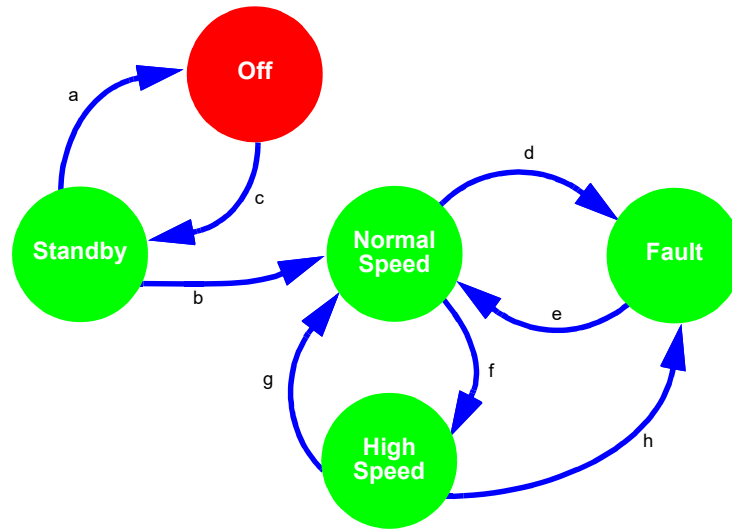
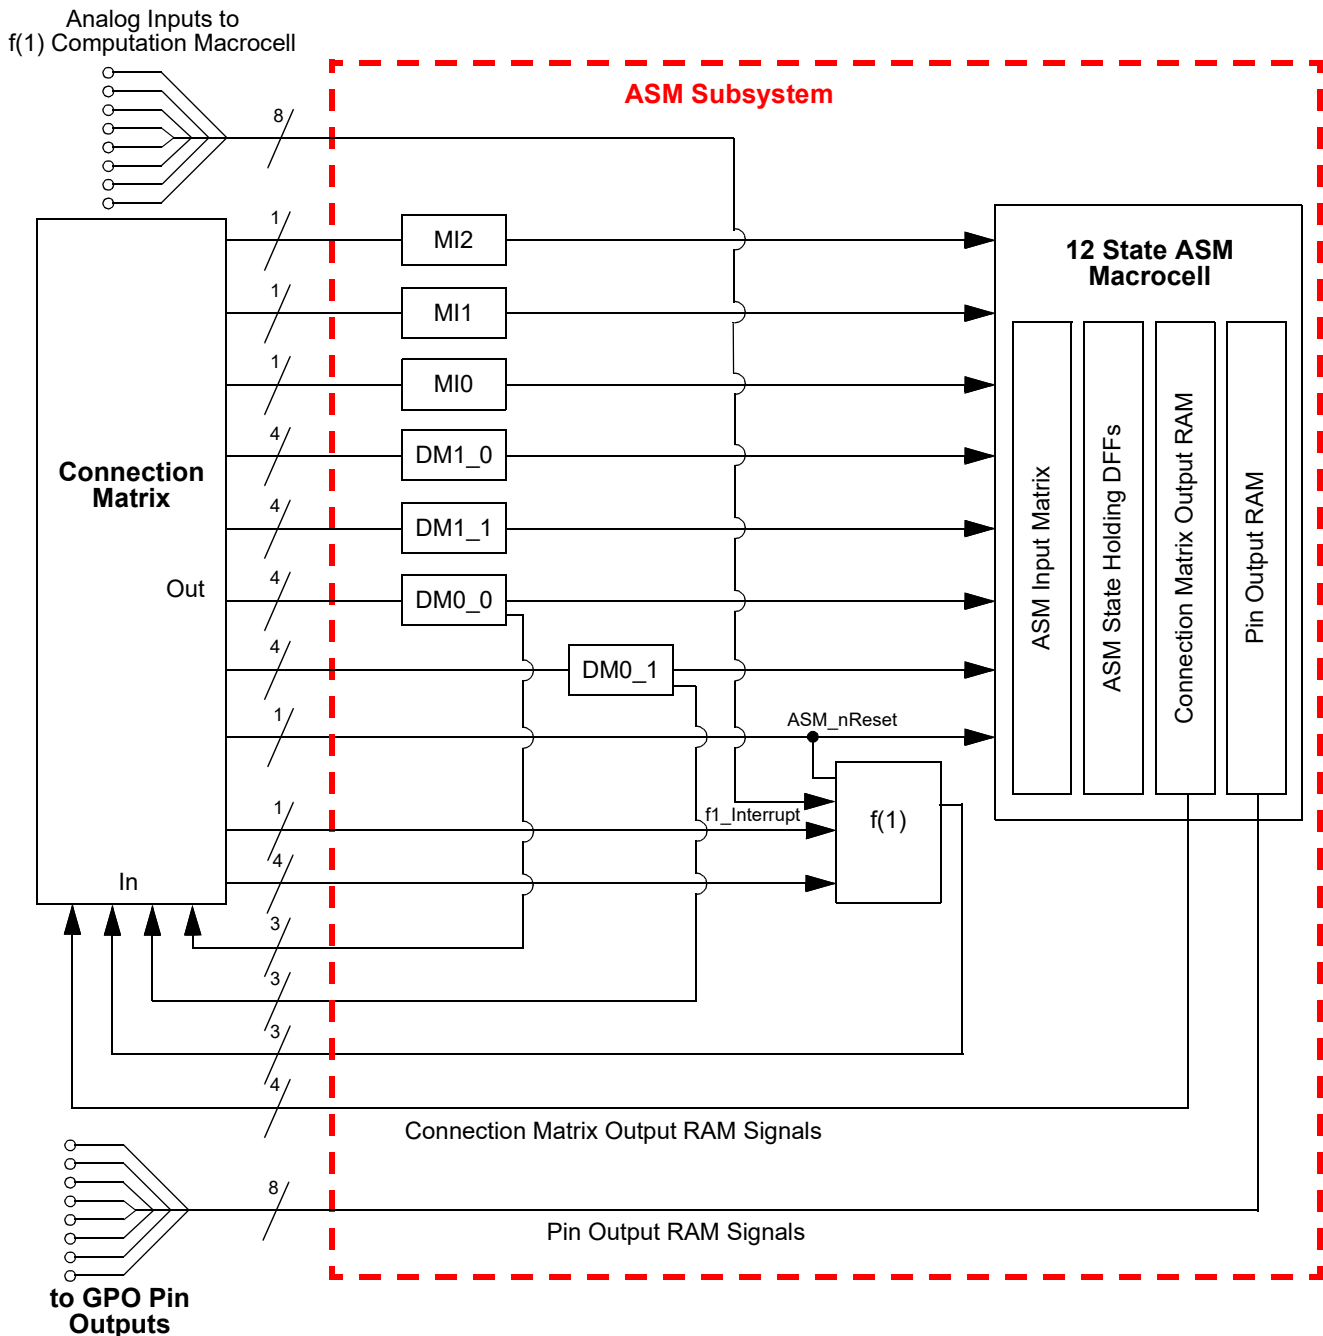

Figure 96: Asynchronous State Machine State Transitions
Figure 97: Connection Matrix to ASM Subsystem
The Asynchronous State Machine (ASM) Subsystem is designed to allow the user to create state machines with between 2 to 12 states. The user has flexibility to define the available states, the available state transitions, and the input signals (a, b, c ...) that will cause transitions from one state to another state, as shown in Figure 96.
- Dynamic Memory (DM) Macrocells – Section 16.
- f(1) Computation Macrocell – Section 17.
- Matrix Interface (MI) Macrocells Section 18.
The ASM Subsystem has a total of 25 digital input signal lines, as shown in Figure 97, which all come from the Connection Matrix outputs. Of these 25 digital input signals, 3 are user selectable inputs going directly from the Connection Matrix to the three Matrix Interface (MI) macrocells. There are a total of 16 input signals that go to the DMx\_x macrocell, four per macrocell. There is 1 ASM\_nReset input that is for driving a state transition in both the ASM macrocell and the f(1) Computation Macrocell to an Initial/Reset state. It is possible to use one macrocell only (MI or DM) for state to state transitions. There are 4 digital input signals coming from the Connection Matrix to the f(1) Computation Macrocell. There is also 1 dedicated Interrupt input signal to the f(1) Computation Macrocell that will halt any active operations and transfer control back to the ASM macrocell.
The ASM Subsystem has a total of 21 digital output signal lines, as shown in Figure 97. There are a total of 4 output signals which go to the Connections Matrix inputs, and from there can be routed to other internal macrocells or pins. The 4 outputs are user defined for each of the possible 12 states. There are a total of 8 output signals which go directly to the 8 GPOs. The 8 outputs are user defined for each of the possible 12 states. Each of the three macrocells, DM0\_0, DM0\_1 and f(1) have three output signals that go to the Connection Matrix.
The GPAK Designer development tools support user designs for the ASM Subsystem at both the physical level and logic level. Figure 96 is a representation of the user design at the logical level, and Figure 97 shows the physical resources inside the various macrocells in the ASM Subsystem. To best utilize this subsystem, the user must develop a logical representation of their desired state machine, as well as a physical mapping of the input and outputs required for the desired functionality.